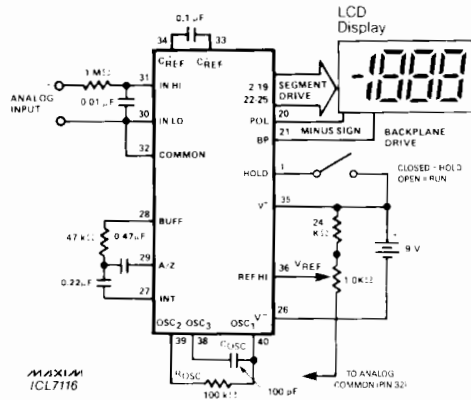

Figure 1. Maxim ICL7116 Typical Operating Circuit, 200mV Reference
- Note 3:** Unless otherwise noted, specifications apply to both the 7116 and 7117 at T_A = 25°C, f_{Clock} = 48kHz. 7116 is tested in the circuit of Figure 1. 7117 is tested in the circuit of Figure 2.
ELECTRICAL CHARACTERISTICS: Specifications below satisfy or exceed all "tested" parameters on adjacent page. ($V^+ = 9V$, $T_A = 25^\circ C$, $f_{CLOCK} = 48kHz$; test circuit - Figure 1 (ICL7116), Figure 2 (ICL7117) unless noted)
Note 7: Test condition is V_{IN} applied between pins IN-HI and IN-LO, i.e., 1M Ω resistor in Figures 1 and 2.
Note 11: 1M Ω resistor is removed in Figures 1 and 2.
however, the display latch pulse is inhibited, and the display latches are not updated. The Hold input has a 70 kilohm pulldown resistor to Test (ICL7116) or Ground (ICL7117) and the Hold input will be pulled low if it is left open. When Hold is low the ICL7116/ICL7117 updates the display at the end of each conversion. The Hold input is CMOS compatible, and can also be driven by a switch connected to V^+ (Figure 1 and 2) or by a PNP transistor.